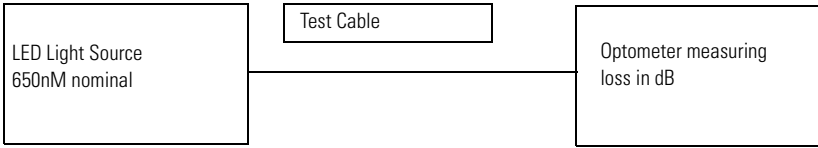

Figure 8 Attenuation Measurement
- **For a 40m or longer pull.** If you are installing cable of lengths 40m or longer, use a “figure 8” on the ground to prevent twisting. The figure 8 puts a half twist in on one side of the 8 and takes it out on the other, preventing twists.
1. Lay cable on floor in a figure 8 pattern.
2. Turn Figure 8 cable 360 degrees (upside down) before continuing.